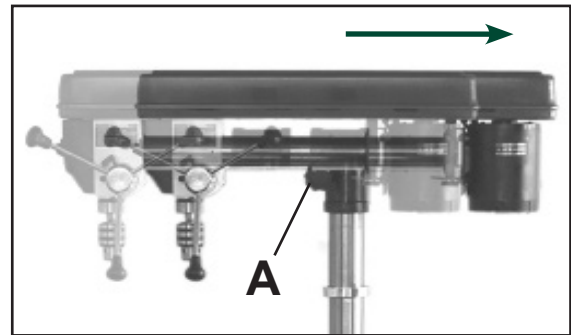

Figure 20
2. Turn the handle (A-Fig.20, 21 ) to the desired position.